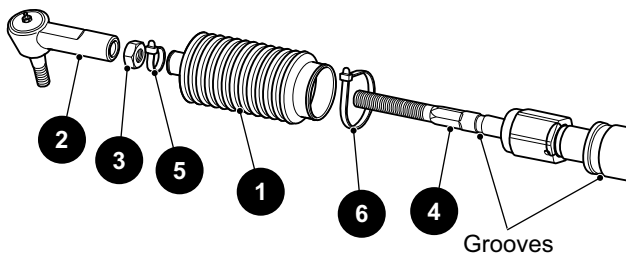

Figure 14 Bellows Replacement
1. To replace bellows (1) (Ref. Figure 14), first loosen passenger side front wheel and lift and support front of vehicle per SAFETY section.